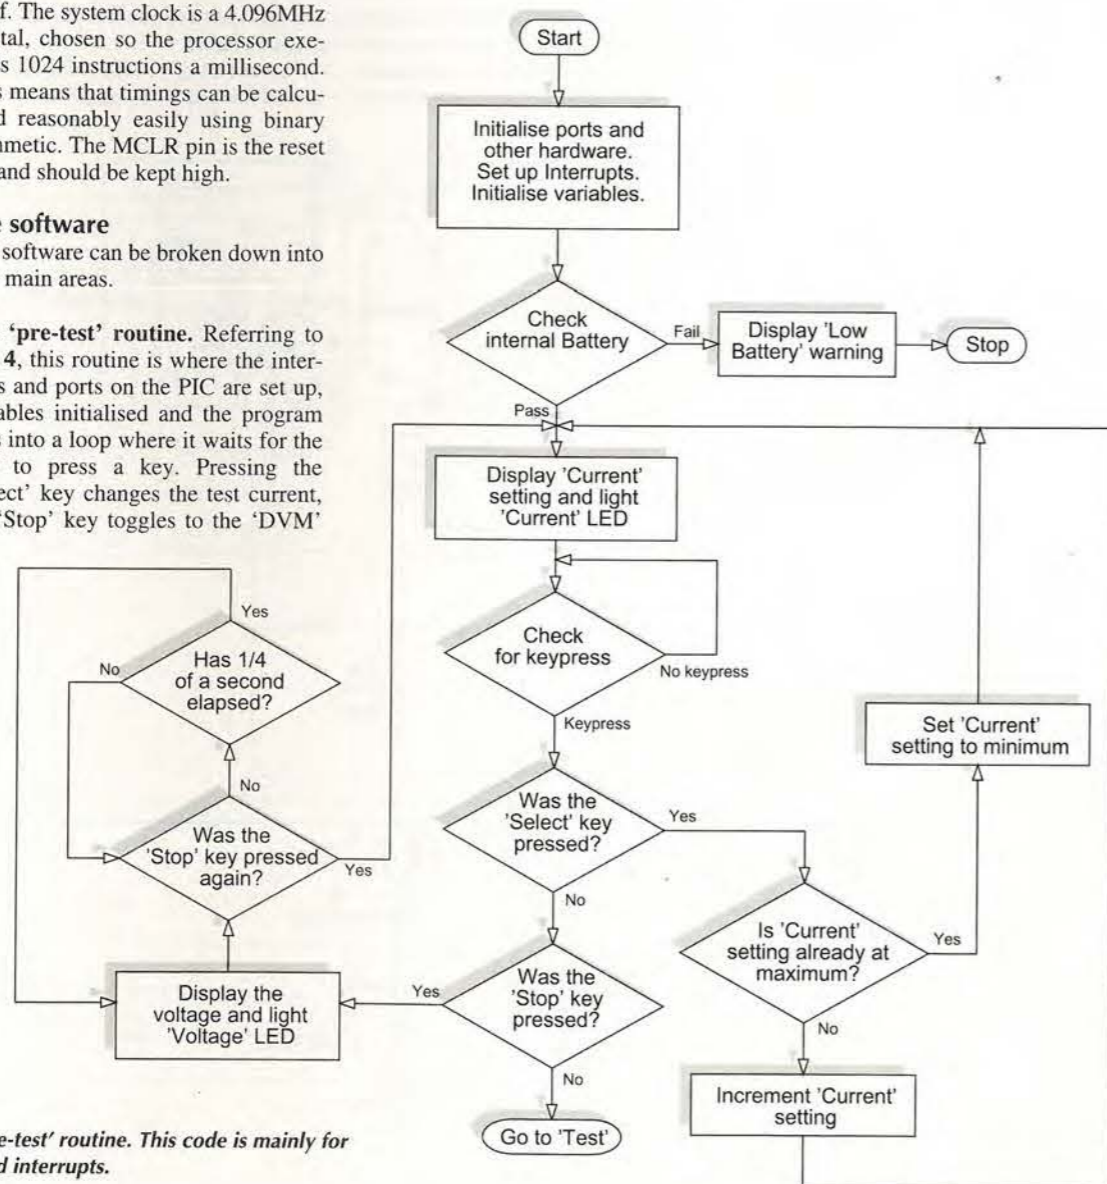

Fig. 4. Flow chart for the 'pre-test' routine. This code is mainly for setting up the PIC's ports and interrupts.
**The 'pre-test' routine.** Referring to Fig. 4, this routine is where the interrupts and ports on the PIC are set up, variables initialised and the program goes into a loop where it waits for the user to press a key. Pressing the 'Select' key changes the test current, the 'Stop' key toggles to the 'DVM'